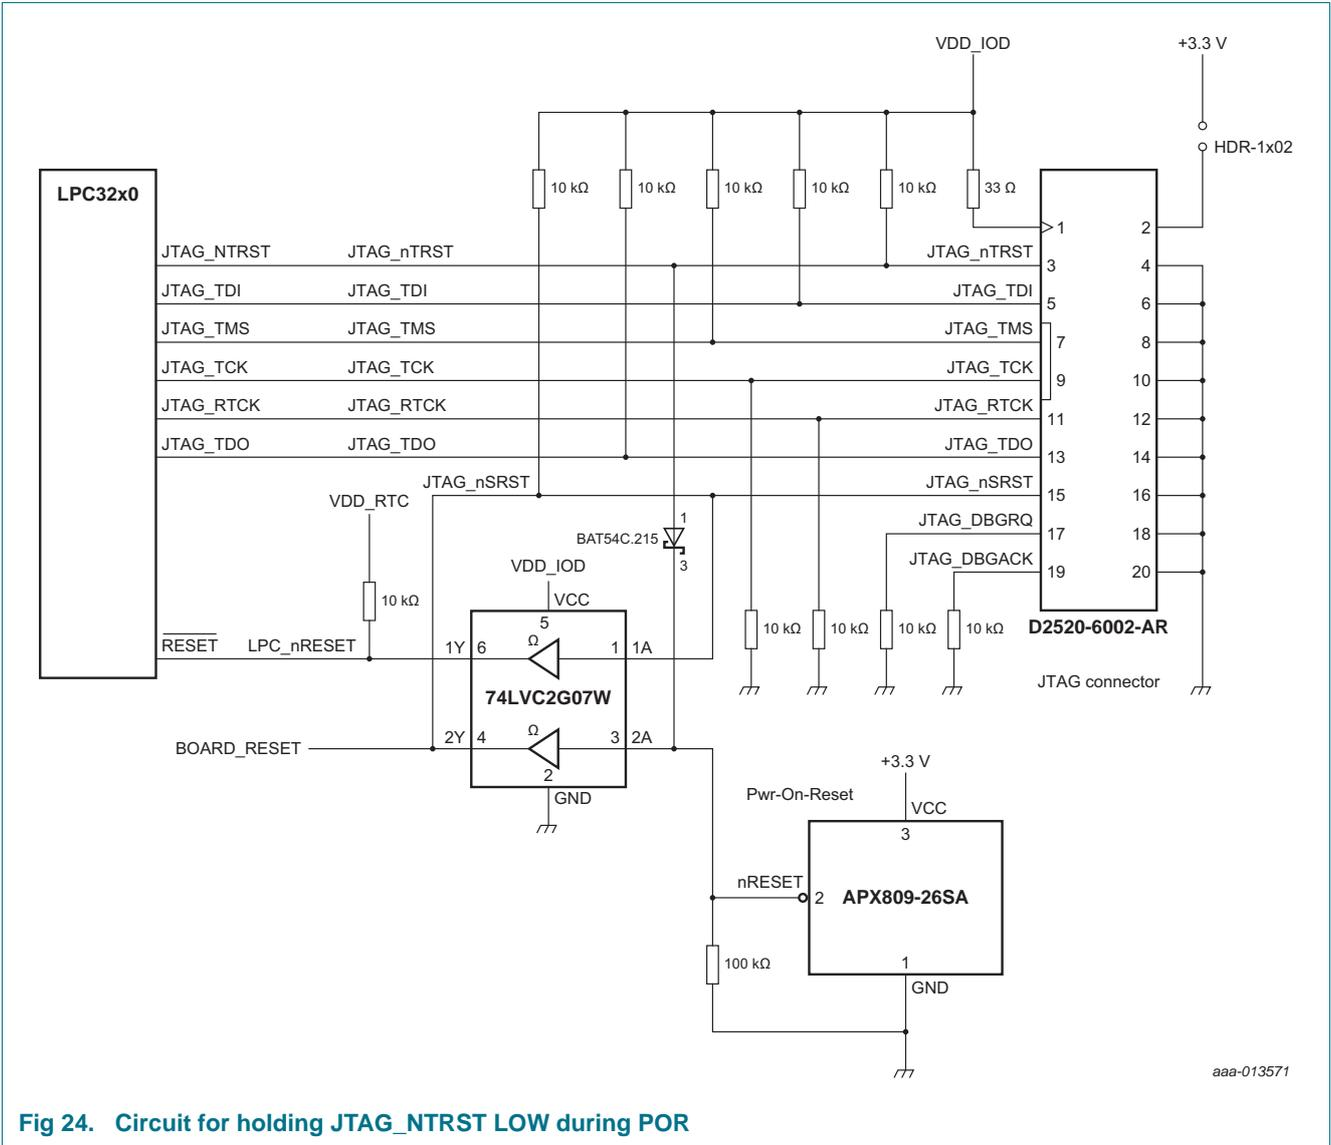

Fig 24. Circuit for holding JTAG\_NTRST LOW during POR
- Implement recommended circuit shown in Figure 24.